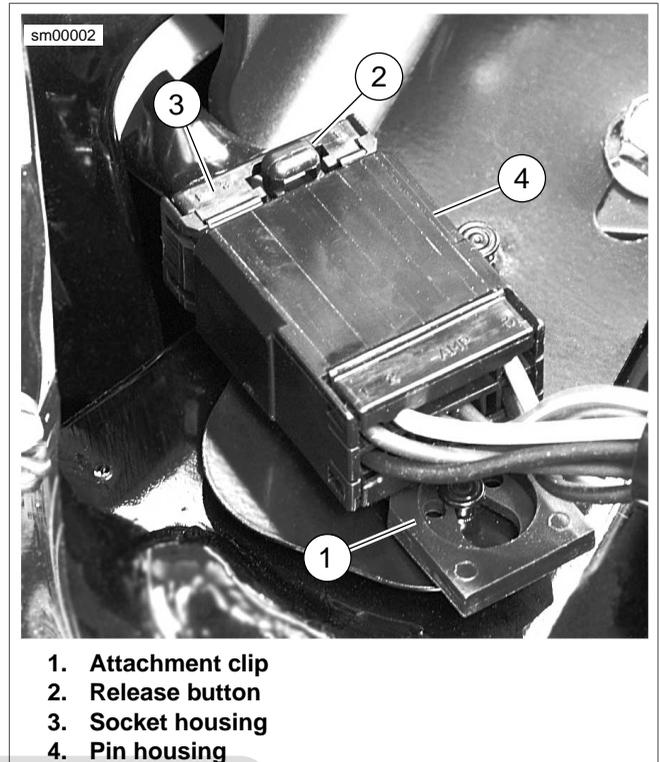

Figure A-3. AMP Multilock Connector
See Figure A-3. Attachment clips (1) on the pin housings are fitted to T-studs on the motorcycle frame. The T-studs identify OE connector locations. To maintain serviceability, always return connectors to OE locations after service.
2. See Figure A-3. Depress the release button (2) on the socket terminal side of the connector and pull the socket housing (3) out of the pin housing (4).